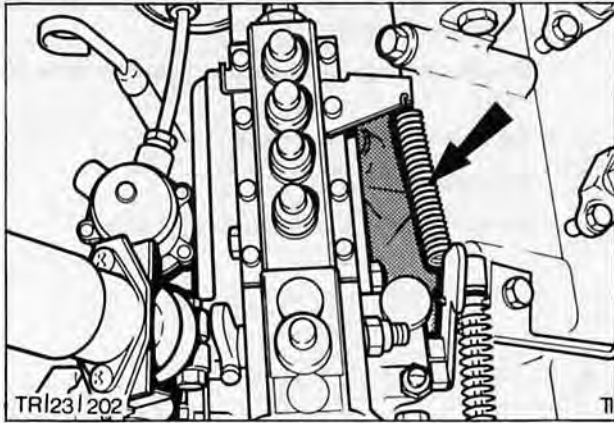

Fig. 80. Throttle return spring
8. Disconnect and remove throttle return spring, Fig. 80.